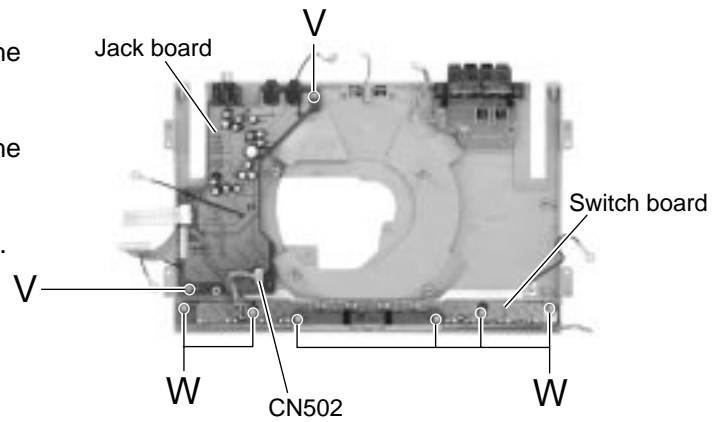

Fig.35
**■Removing the jack board (See Fig.35)**
**■Removing the switch board (See Fig.35)**